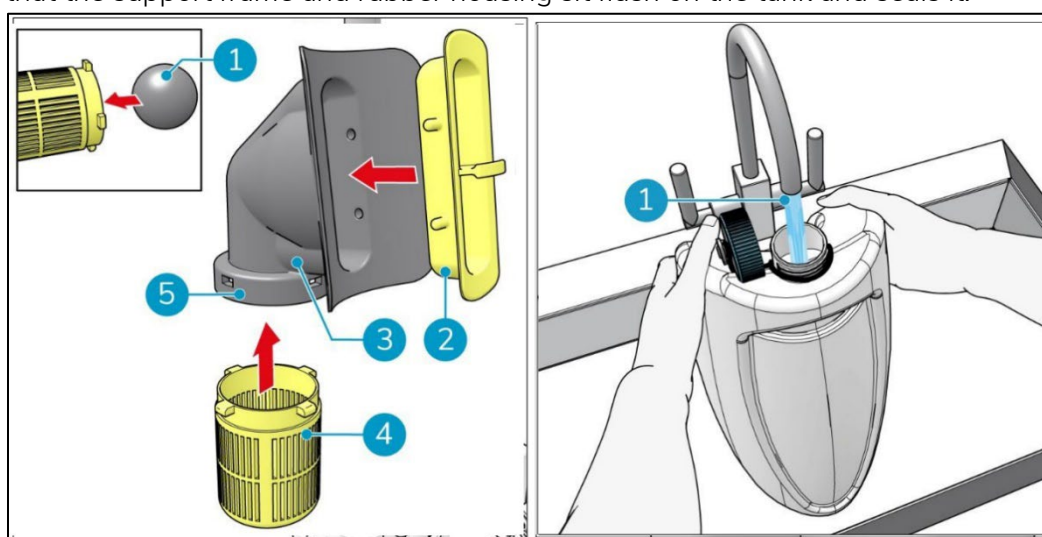

Figure 30
11. Fill the recovery tank with approximately 1 liter of tap water (Figure 30, pos 1).
13. Place the ball float shutoff assembly back in the recovery tank, see Figure 30. Make sure that the support frame and rubber housing sit flush on the tank and seals it.